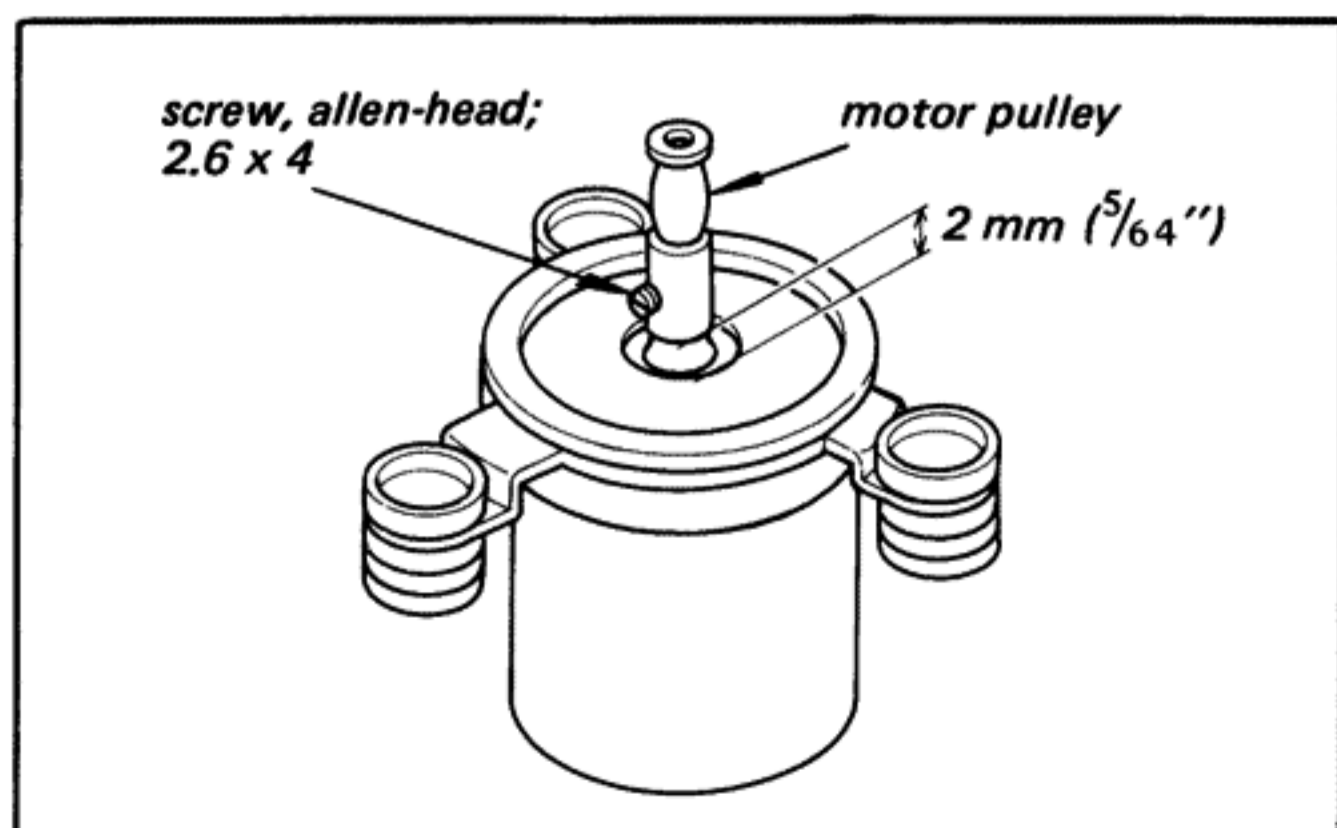

Fig. 2-7. Motor pulley replacement
4. Adjust the height of the motor pulley so that the bottom of the motor pulley is 2 mm ($\frac{5}{64}$ "') higher than the top of the motor bracket as shown in Fig. 2-7 and tighten the set screw.